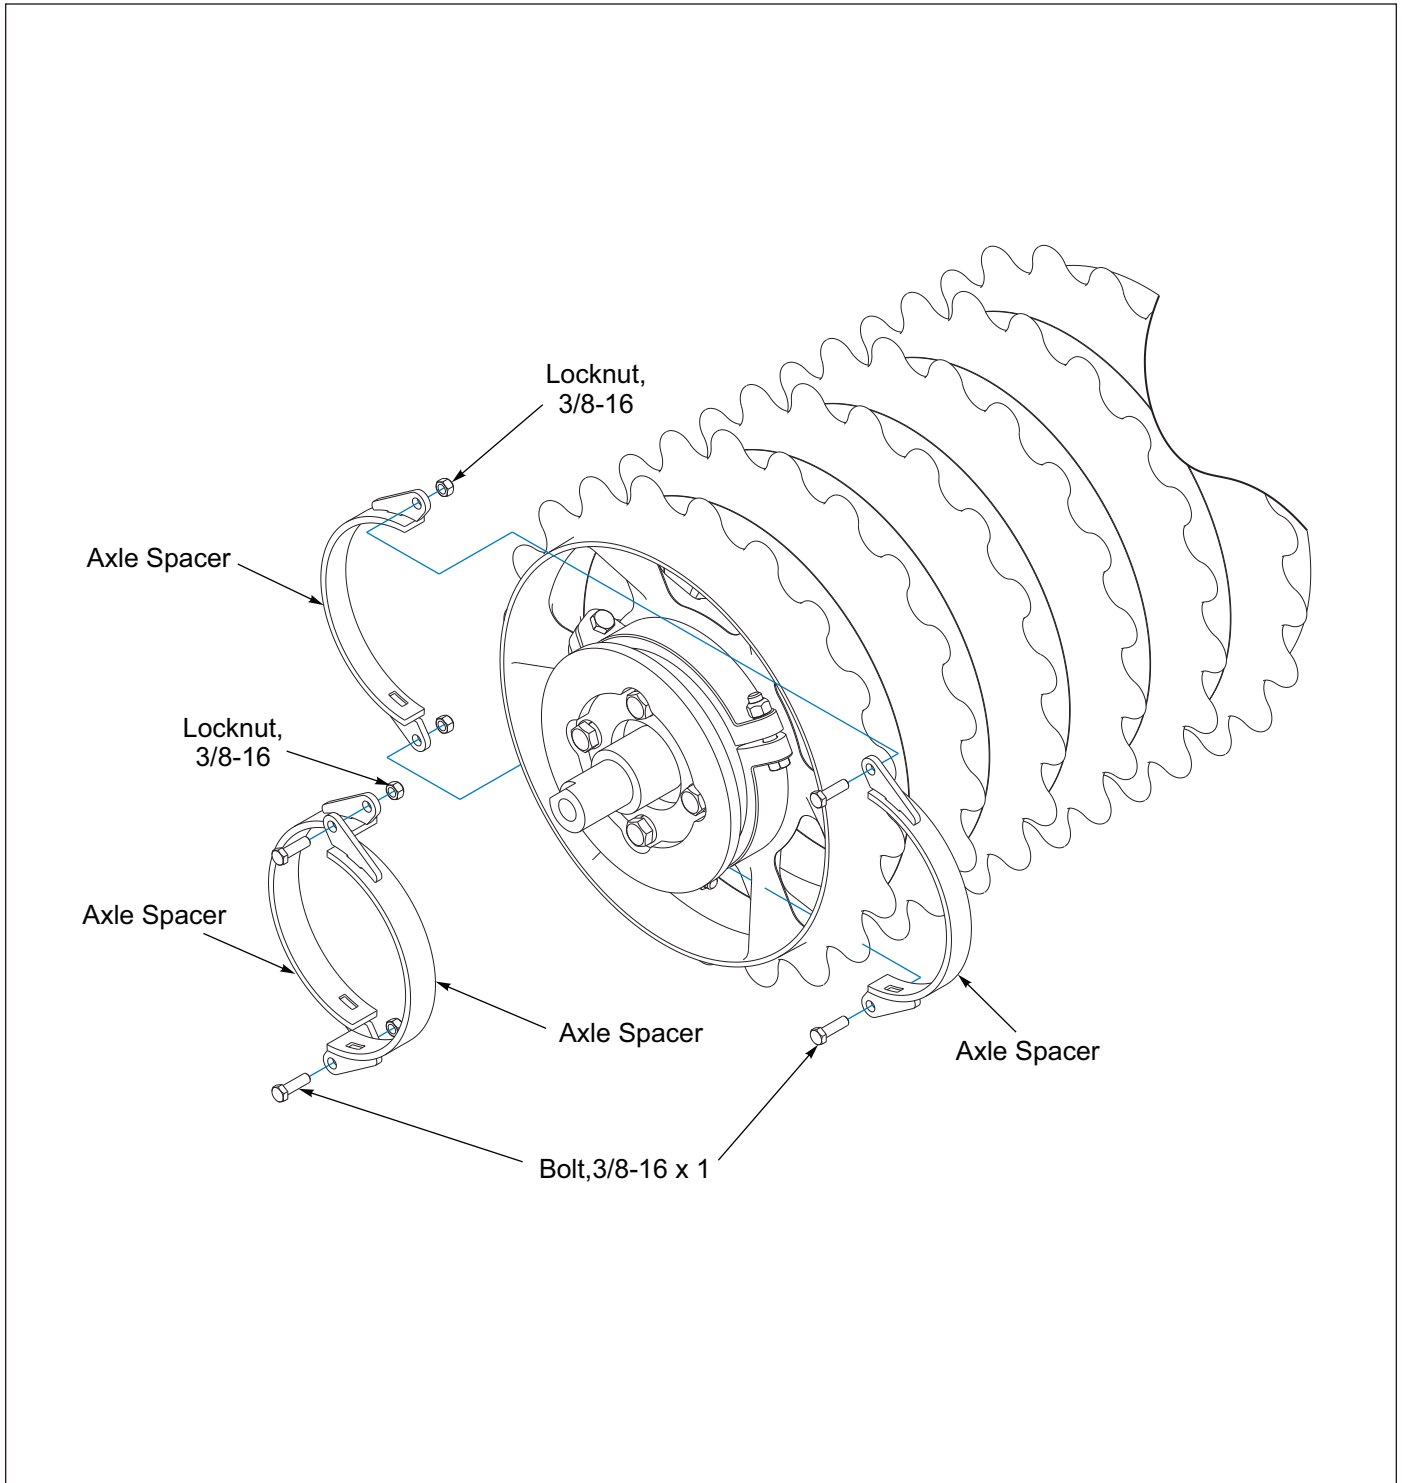

Figure 4-10: Clamp End Spacer Kit, 1", 1-1/4", 1-1/2" - Optional
1. Place the two Axle Spacers between the Axle Clamp and the Wheel Stop. **See Figure 4-10.**